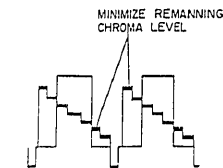

Fig. 4-107
(3) Trap Frequency Adjustment (Figs. 4-107, 4-151)